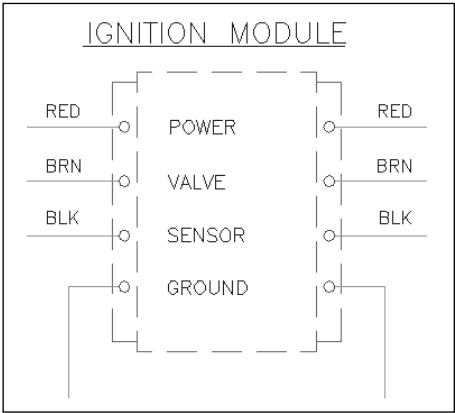

Figure 13-31: The text on the right was mirrored with MIRRTEXT set to 0.
- 8. Repeat the mirror operation using the same instructions as in Step 5. This time the command mirrors the objects, but the text reads properly, as shown in Figure 13-31.